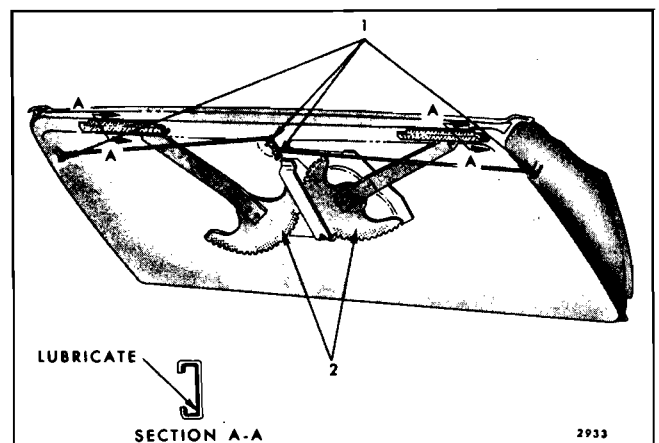

Fig. 2-14—Tailgate Window Regulator, Cams, etc. - All Tailgates
1. Apply white lithium soap grease lubricant (Auto-Lube "A", Part No. 1050110 or Spray-Lube "A", Part No. 1050520 or equivalent) to the pivot points of the connecting rods indicated 1 in Figure 2-14).
2. Coat the entire length of the inner surface of all cams with Fiske Bros. Lo-Temp Lubriplate #777 or equivalent as shown in the cross section "A-A" in Figure 2-14.
3. Apply Auto-Lube "A", Part No. 1050110 or Spray-Lube "A", Part No. 1050520 or equivalent to the teeth of the sector gears at points 2 as shown in Figure 2-14.